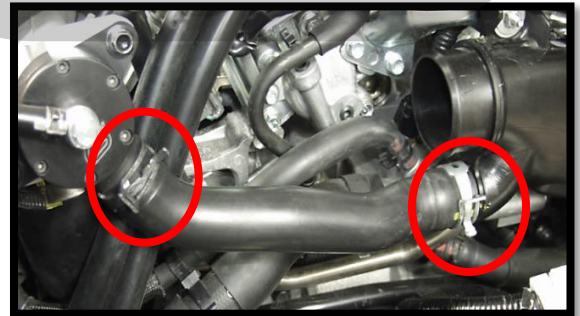

Figure 3a
- a) Release the hose clamps on the bypass valve hose (red circles in Figure 3a) using channel lock pliers. Remove the BPV hose from the car and save if you are re-using it. You can discard the rubber hose and spring clamps if you will be installing the CorkSport Silicone BPV Hose.